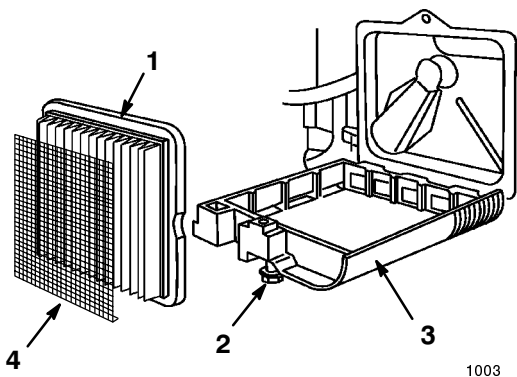

Figure 18
3. Loosen the screw that secures the air filter cover to the engine (Fig. 18).
4. Tilt the air cleaner cover down and clean the cover thoroughly (Fig. 18).
6. Remove and discard the paper air cleaner filter (Fig. 18).